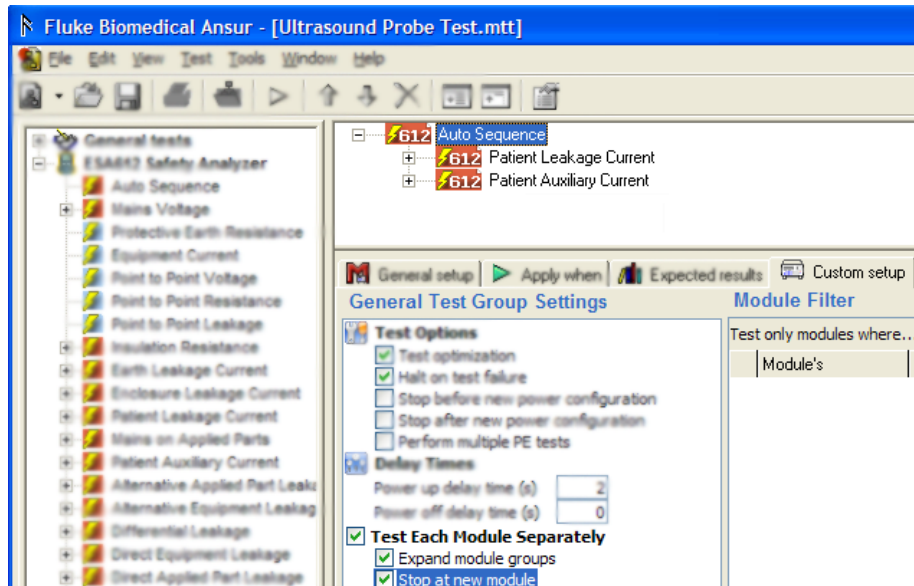

Figure 4-8. Configuring Module Testing
- Click the Test Each Module Separately, Expand module groups, and Stop at new module checkboxes in the General Test Group Settings area as shown in Figure 4-8.